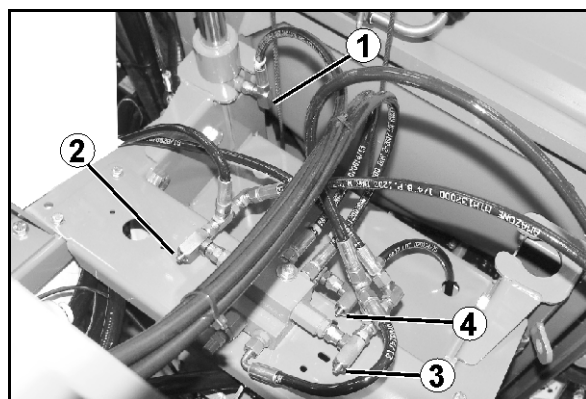

Fig. 149
1. Unscrew the magnetic cap (Fig. 149/1) abschrauben.
2. Remove the solenoid (Fig. 149/2) abnehmen.
3. Unscrew the valve rod (Fig. 149/3) with valve seats and clean with compressed air or hydraulic fluid